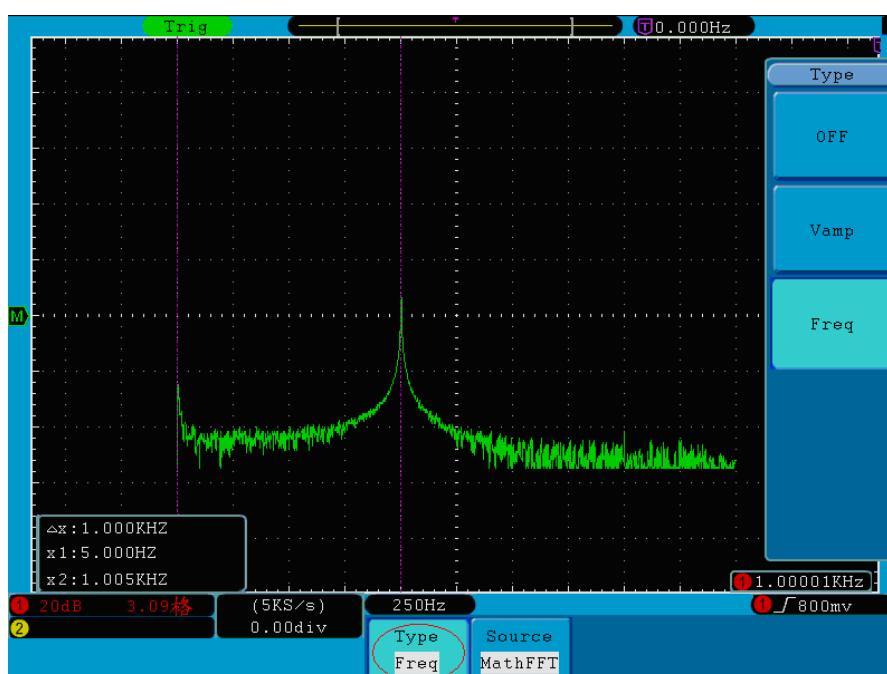

Figure 4-53 Wave of Freq cursor measurement
3. According to the measured waveform, adjust the positions of Cursor1 and Cursor2 by turning the **VERTICAL POSITION** knob of CH1 and CH2. Increment window shows two cursors difference value and the present position (see *Figure 4-53*).